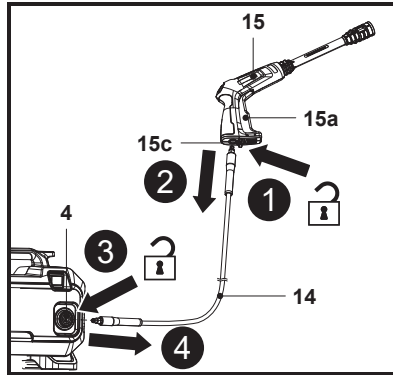

Fig. 5
**WARNING!** NEVER TIE KNOTS OR KINK THE PRESSURE HOSE (14) AS DAMAGE COULD RESULT.
4. To disconnect the pressure hose (14) from the spray gun (15), push the quick release lever (15c) towards the pressure hose (14) and hold it in place, then pull out the pressure hose (14) (Fig. 5, steps 1, 2).
5. To disconnect the pressure hose (14) from the machine, push the outer ring of the hose connector (4) inward and hold it in place, then pull out the pressure hose (14) (Fig. 5, steps 3, 4).